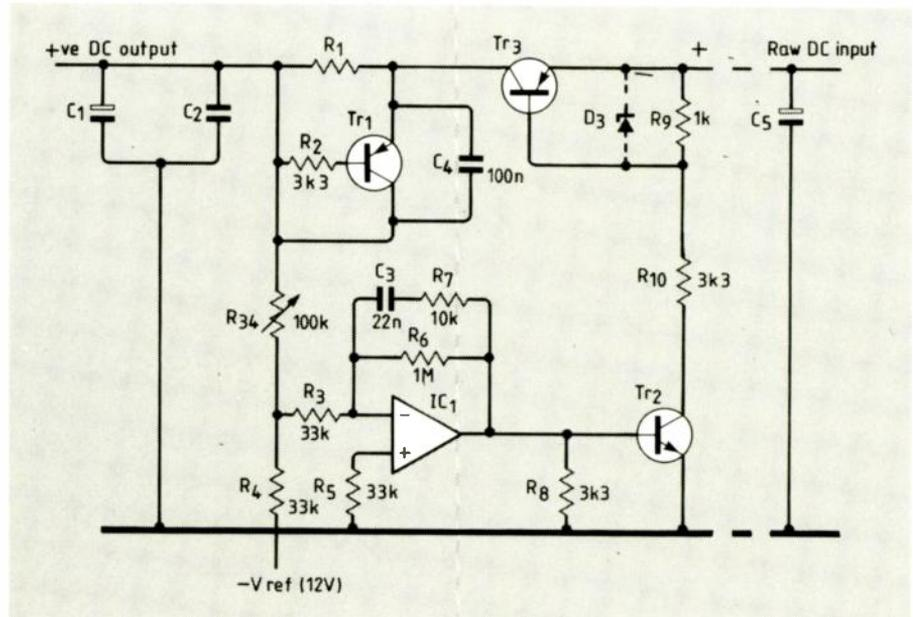

Fig. 1. Basic circuit of one stabiliser. Four circuits of this general type are used
I have shown the basic circuit of this PSU in simplified form in Fig.1. For the sake of clarity, only one half of the design is illustrated. The other half is a mirror image of this.
Fig.1 is straightforward. The negative end of  $R_4$  is taken to a reference voltage supply of some convenient value, such as  $-12V$ , and the positive end of  $R_{34}$  is taken to the power supply positive output rail. The operational amplifier  $IC_1$  then acts to sense the potential at the junction of  $R_{34}$  and  $R_4$ , and adjust the voltage fed to the base of  $Tr_2$  in such a way as to cause  $Tr_3$  to increase or reduce its output current to bring the inverting input of  $IC_1$  back towards the required 0V level.
In the circuit layout of Fig.1, over-current protection is given by  $Tr_1$  since, if the voltage drop across  $R_1$  exceeds the base-emitter turn-on voltage of  $Tr_1$ , this will conduct and effectively short-circuit  $R_{34}$ , causing the
Because the maximum output current of 4A and the total supply voltage would, if they appeared simultaneously across the devices, exceed the safe operating area specification for the chosen output transistors, a re-entrant overload current characteristic is provided by modifying the circuit layout of Fig.1 in the manner shown in Fig.5. In this arrangement a larger value of current limit resistor (R1) is employed and the emitter of
A basic problem affecting VHF and UHF mobile communications – and FM broadcast reception on car radios – is fast and deep fading due to the constantly changing summation of multiple multipath signals brought about by local scattering. Since in an urban environment the mobile antenna will usually be lower than the surrounding structures, the direct signal from a base station will be bounced off nearby buildings and many reflected signals generated (Fig. 1). The sum of these signals will constantly change as the vehicle moves along the streets.
**Fig. 1. Fast fading to below the FM threshold level in mobile VHF/UHF operation results from the constantly changing summation of many signals reflected from buildings, ground etc. The changing path loss due to hills and other major obstructions results in pronounced, but slower long-term fading. Ideally the receiver needs to cope with fast fading superimposed on a slower fading signal.**